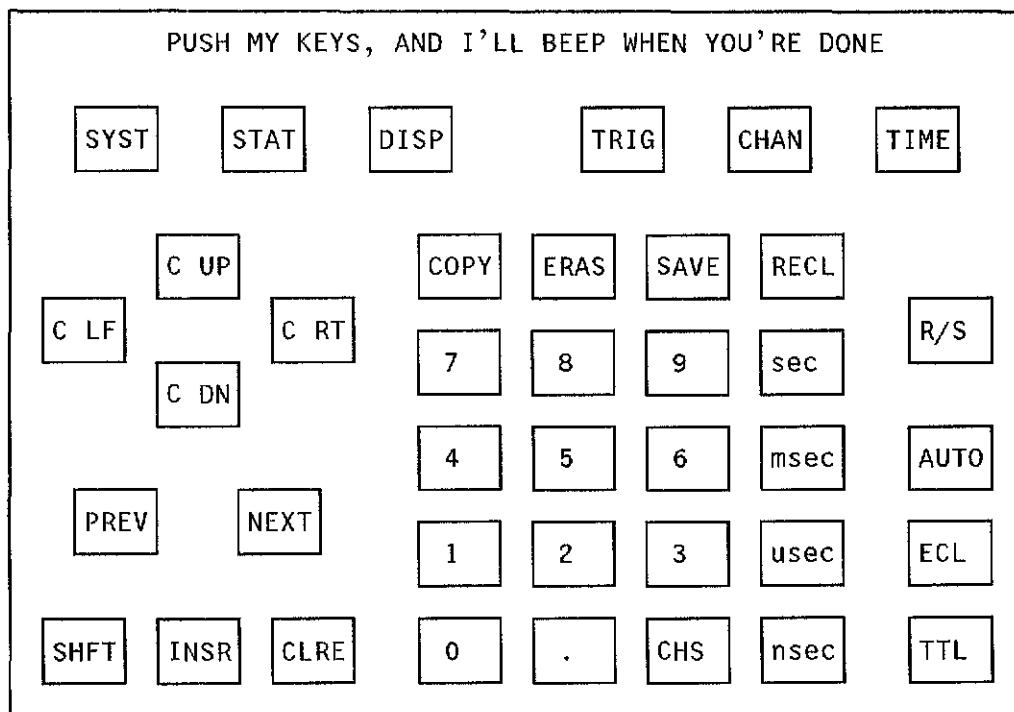

Figure 6-10. Hardware Service Keyboard Test Display
4. The HP 54201A/D should now display all the front-panel keys as shown in figure 6-10. Press each key on the keyboard. The keys that are working properly will disappear from the screen when pressed.